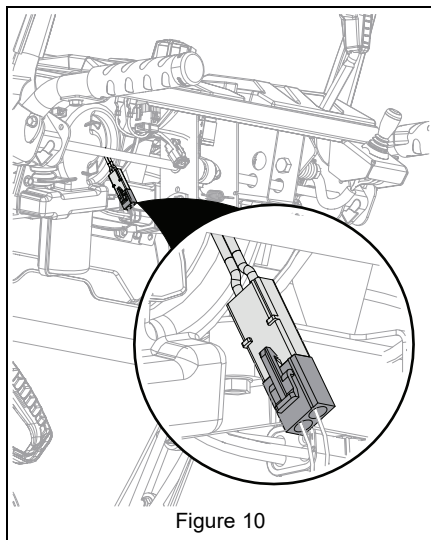

Figure 10
2. Ensure the EFI battery located under the control panel is connected and fully charged. See Figure 10.